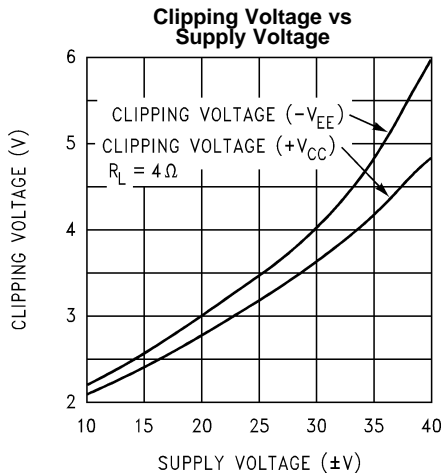

Figure 14.
- (1) All voltages are measured with respect to the GND pin (pin 7), unless otherwise specified.
- (2) Absolute Maximum Ratings indicate limits beyond which damage to the device may occur. Operating Ratings indicate conditions for which the device is functional. Electrical Characteristics state DC and AC electrical specifications under particular test conditions and specific performance limits. This assumes that the device is within the Operating Ratings. The typical value is a good indication of device performance.
- (3) Typical values are measured at 25°C and represent the parametric norm.
- (4) Limits are specified to AOQL (Average Outgoing Quality Level).
- (5) V^- must have at least $-9V$ at its pin with reference to ground in order for the under-voltage protection circuitry to be disabled.
- (6) AC Electrical Test; refer to Test Circuit #2 - AC Electrical Test Circuit.
- (7) The feedback compensation network limits the bandwidth of the closed-loop response and so the slew rate will be reduced due to the high frequency roll-off. Without feedback compensation, the slew rate is typically larger.
- (8) DC Electrical Test; refer to Test Circuit #1 - DC Electrical Test Circuit.
- (9) The output dropout voltage is the supply voltage minus the clipping voltage. Refer to Figure 14 in Typical Performance Characteristics.